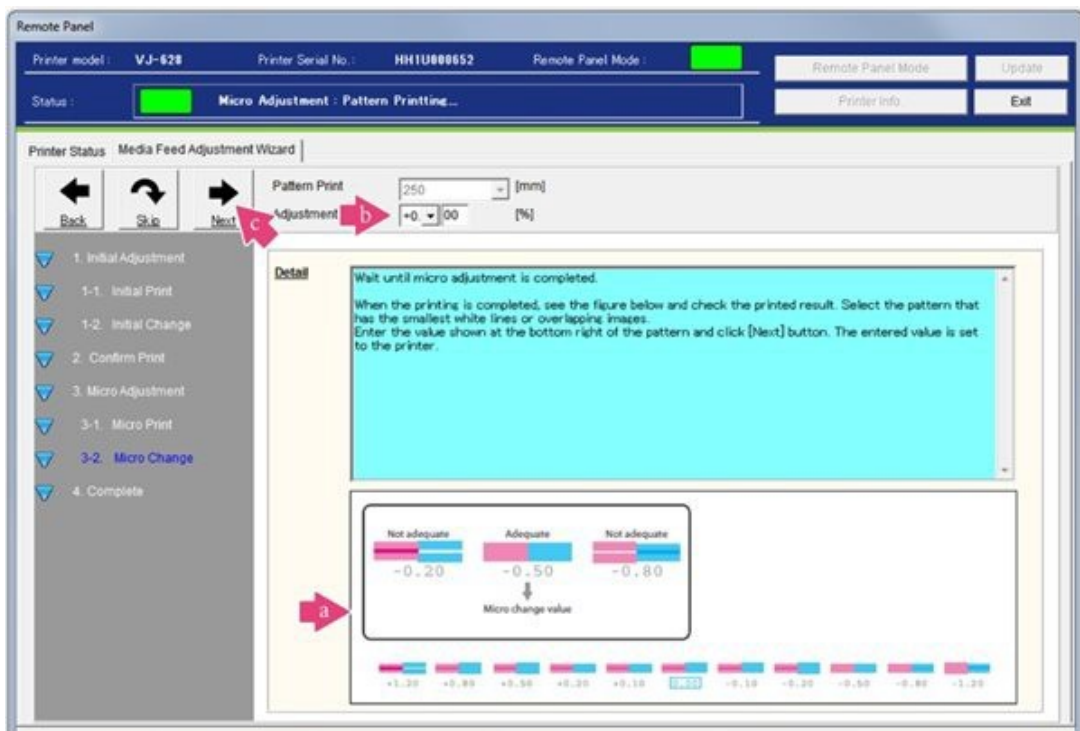

Figure 101
88. Wait until the micro adjustment is completed. Follow the example shown (a) to determine the adequate print value to use from the adjustment print. Enter the **determined value (b)** and select **Next (c)** to continue. See Figure 101.